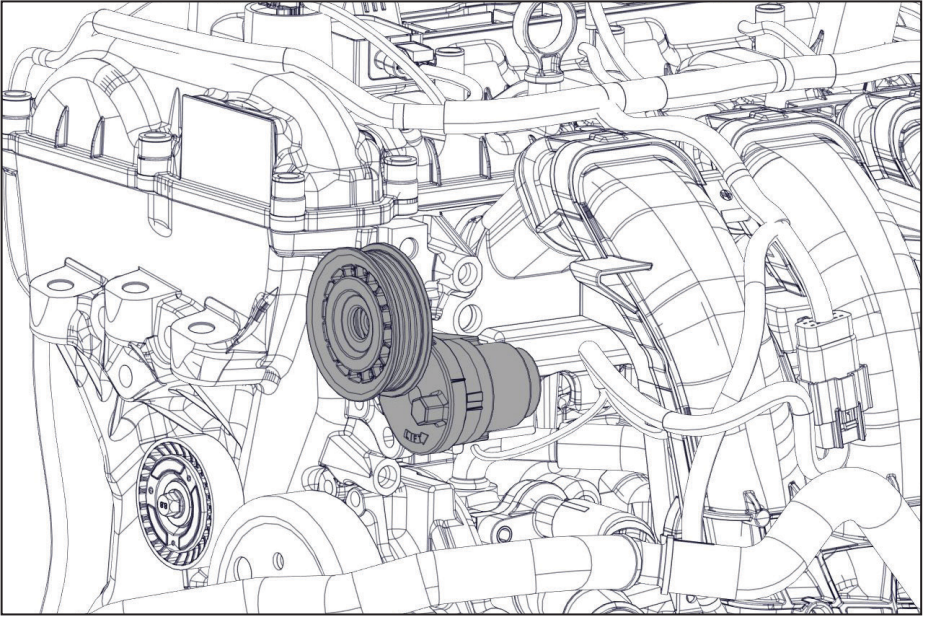

Figure 7 — Remove OEM tensioner
- Remove the OEM tensioner (Figure 7).